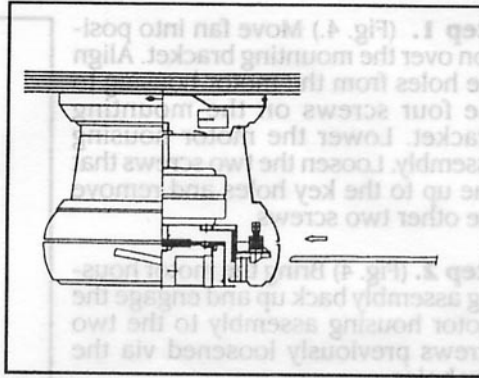

FIG. 5
Step 1. Insert the blades into the motor housing blade slots, push blade until snug. You should be able to hear the inside safety pin fall into the blade hole to secure the blade in place. (Fig. 5)